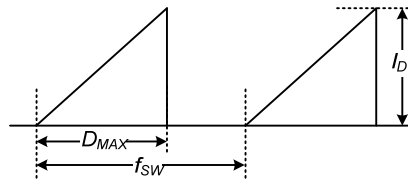

Figure 4. Repetitive Peak Switching Current
- Repetitive peak switching current when the inductive load is assumed: Limited by maximum duty (D_{MAX}=0.73) and junction temperature (see Figure 4).